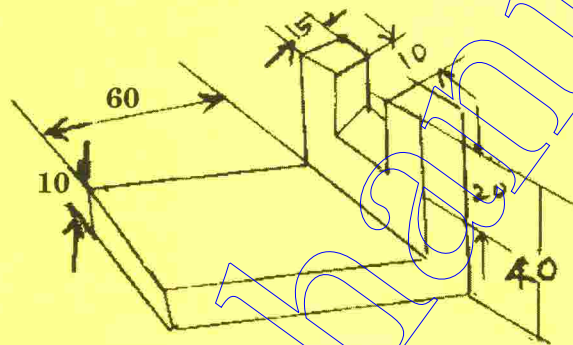

Fig. 11 (b)
- (b) Locate and clamp the work-piece shown in Fig 11 (b). The work piece should be positioned to allow the slot to be machined on a horizontal milling machine using a staggered-tooth side-milling cutter.